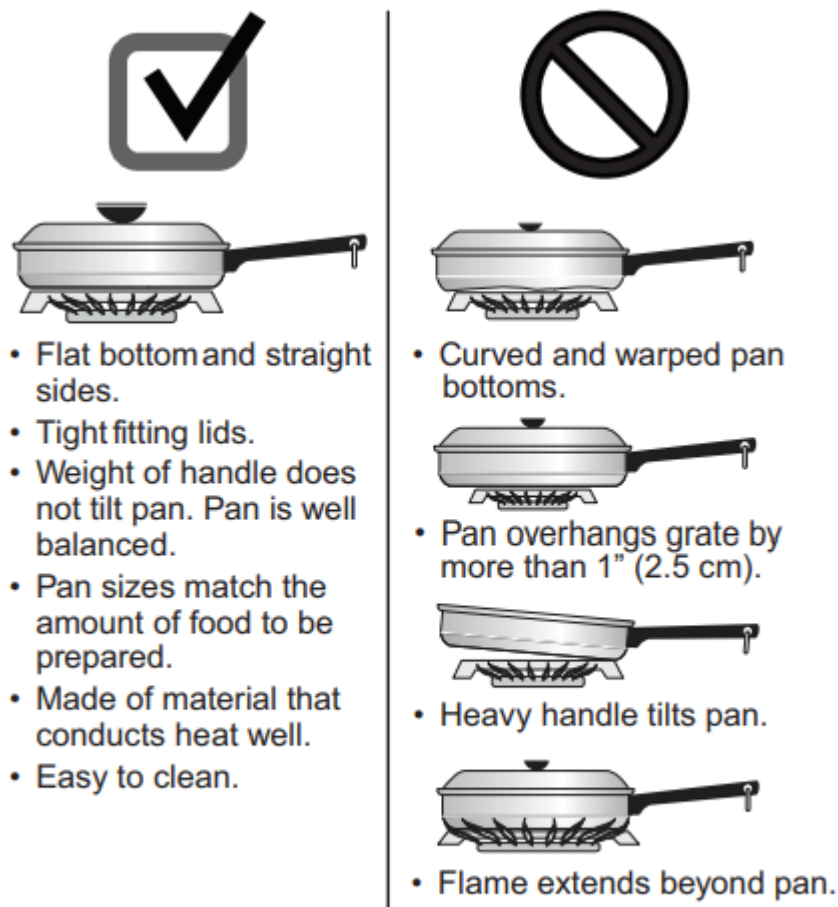

Figure 6: Proper cookware
- The size and type of cookware used will influence the heat setting needed for best cooking results. Be sure to follow the recommendations for using proper cookware as illustrated in Figure 5 and Figure 6.
- Check for flatness by rotating a ruler across the bottom of the cookware (See Figure 5). Cookware should have flat bottoms that make good contact with the entire surface heating element (See Figure 6).